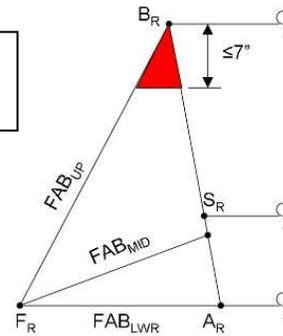

Figure 2
- (A) **Cockpit Switch** – The cockpit switch must be located in the front of the cockpit within easy reach of the driver with the safety harness tight. The switch may not be mounted on a removable steering wheel assembly.
- (B) **External Switch** – The external switch must be mounted on the driver’s right side of the vehicle, on a panel generally perpendicular (it can be mounted between the RRH and FAB tubes) to the firewall (+/- 15 degrees) between RRH and Rear Bracing within the red area, (Fig 2) and behind the plane of the RRH. The switch cannot be more than 178 mm (7 in) vertically below point. BR. The switch must be within easy reach of track workers, the switch must be mounted rigidly, with no sharp edges nearby. It must not be necessary to reach inside the roll cage to actuate the switch.